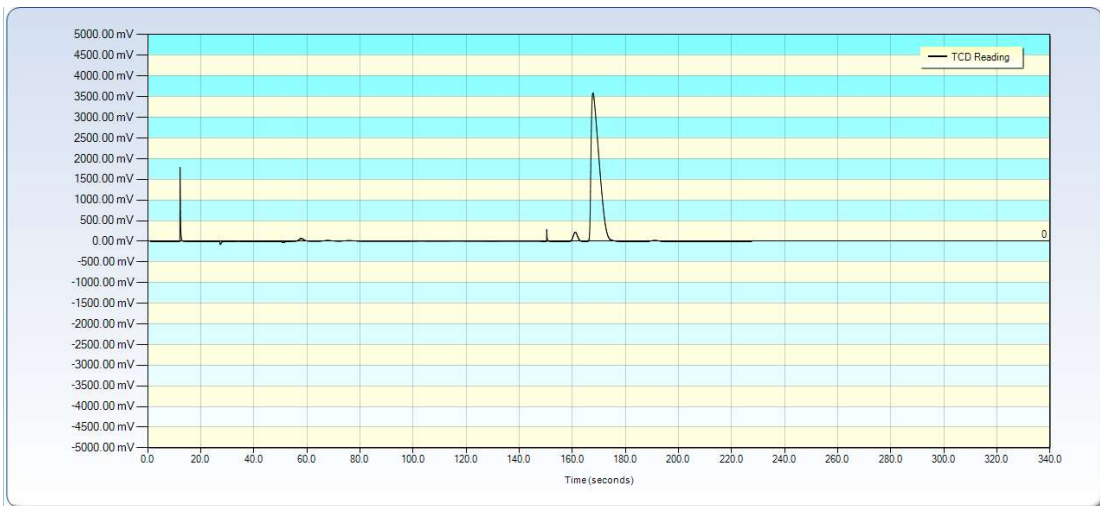

Figure 4-25: Color after First Back Color (also shows border)
- e) *First Back Color* – presents a color palette (Figure 4-19) to change the color of the background (Figure 4-25).